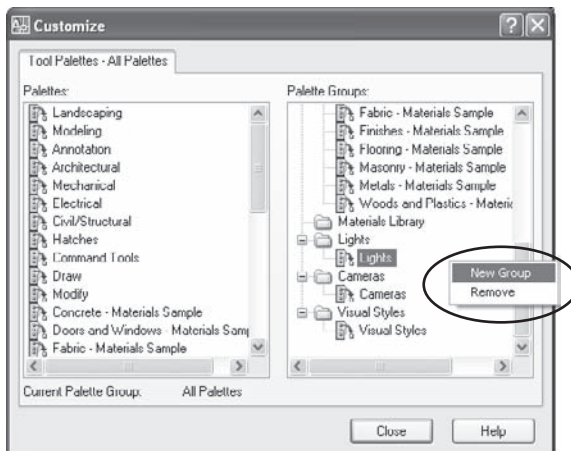

Figure 3.4
2. Right-click in an empty area of the Palette Groups pane, and select `New Group` to create a group for your new tool palette (see Figure 3.4). Name this new group **Sybox**.